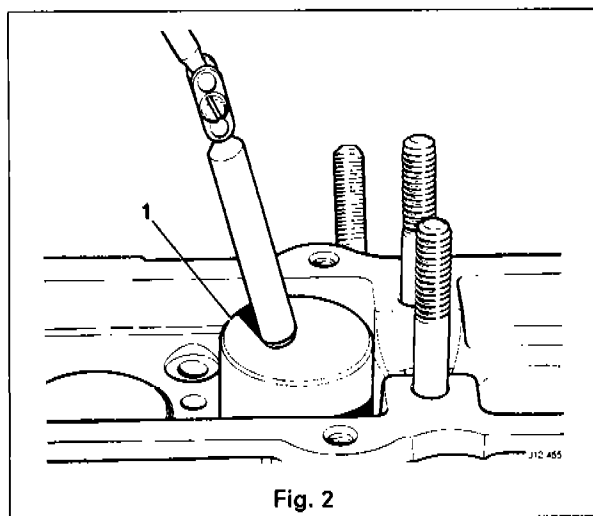

Fig. 2
- Using a magnet, lift out the cam followers (1 Fig. 2).
- After cleaning and polishing each valve, examine the stems for straightness and wear, using a suitable dial gauge and vee-block see example at Fig. 2.